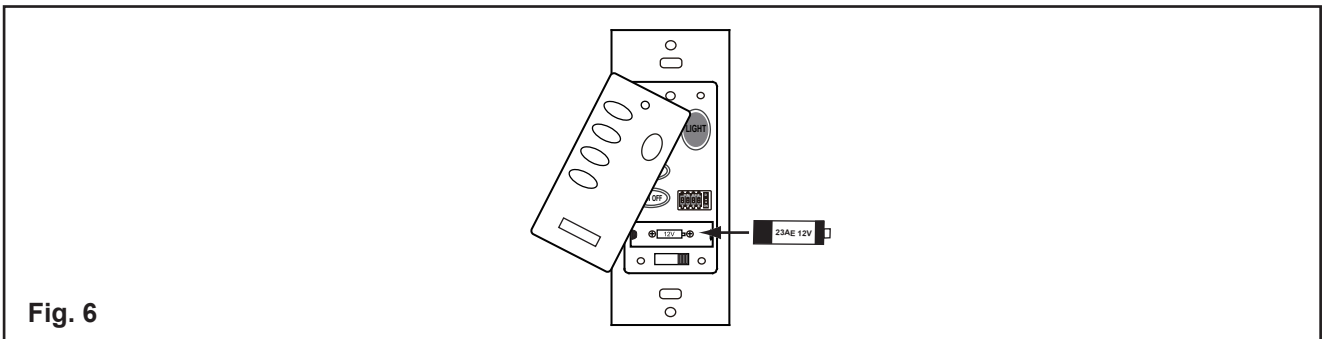

Fig. 6
- d. Remove cover by snapping off from top or bottom, install 12V battery located in the wall transmitter, Duracell MN21/Eveready A23/GP 23A all 12V. (Fig. 6)